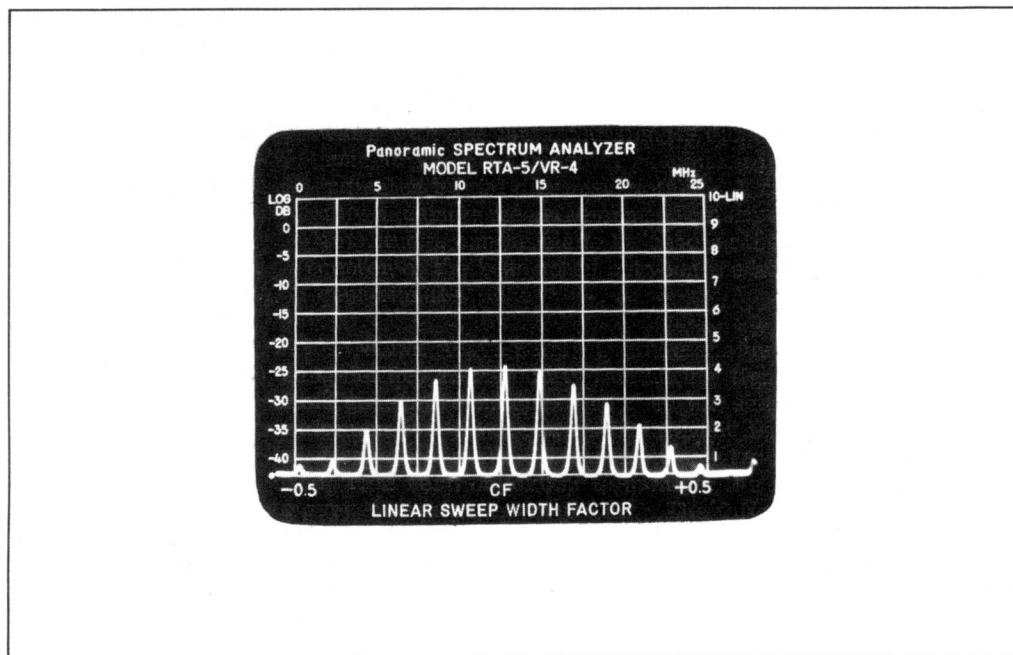

Figure 2-6. Determining Pulse Width and PRF of a Pulsed RF Signal
- a. Adjust the SWEEP WIDTH and CENTER FREQUENCY controls so as to obtain one full side lobe with easily resolved spikes on the CRT (see figure 2-6). Record the SWEEP WIDTH dial reading.
- e. Obtain the PRF by dividing the recorded SWEEP WIDTH dial setting by the number of spikes on the CRT display (as in the case of figure 2-6, there are 12).